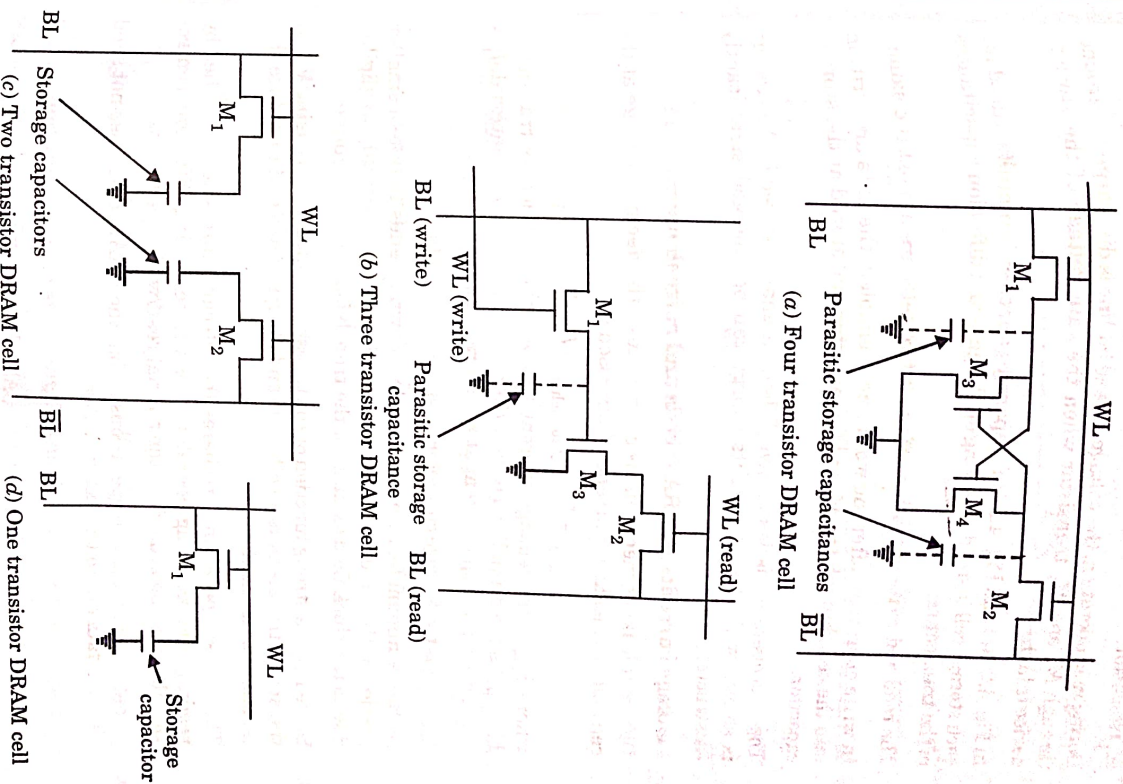

Fig. 4.2.1. Various configurations of the dynamic RAM cell.
1. The various configuration and step wise historical evolution of the DRAM cells is shown in Fig. 4.2.1.
2. In Fig. 4.2.1(a), during write operation, a word line is enabled and complementary data are written from a pair of bit lines. Charge is stored at parasitic and gate capacitance of a node.
4. In Fig. 4.2.1(b), M_3 acts as storage device and one transistor each for read and write operation.
- In Fig. 4.2.1(c) and Fig. 4.2.1(d) separate capacitor is manufactured for each storage cell instead of relying on the gate and diffusion capacitances of the transistors.